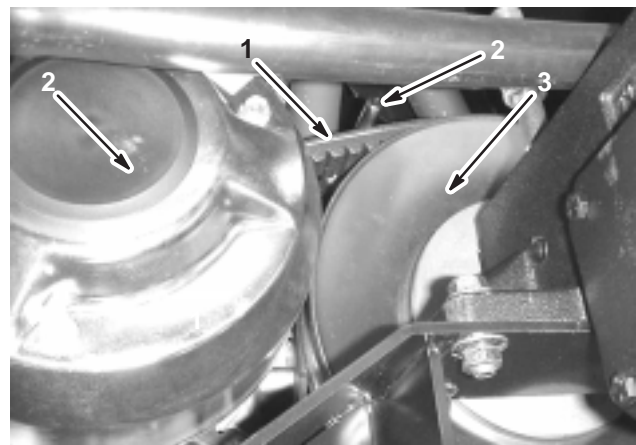

Figure 47
1. Loosen the 2 belt guides near the secondary clutch (Fig. 47).
2. Rotate and route the belt over the secondary clutch (Fig. 47).
3. Remove the belt from the primary clutch (Fig. 47).
4. Place the new belt over the primary clutch (Fig. 47).
5. Rotate and install it over the secondary clutch (Fig. 47).